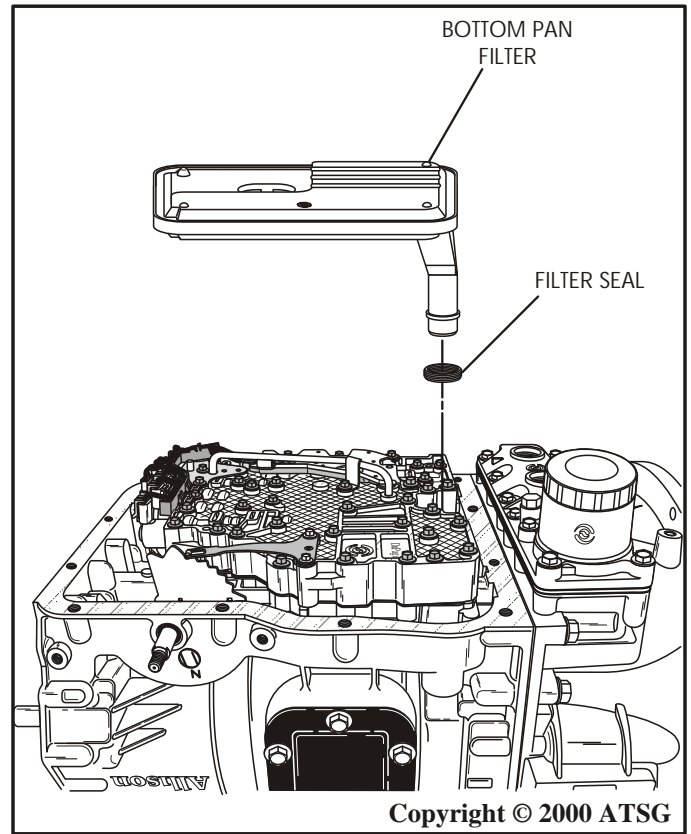

Figure 174
60. Install a new bottom pan filter and filter seal in transmission, as shown in Figure 174.